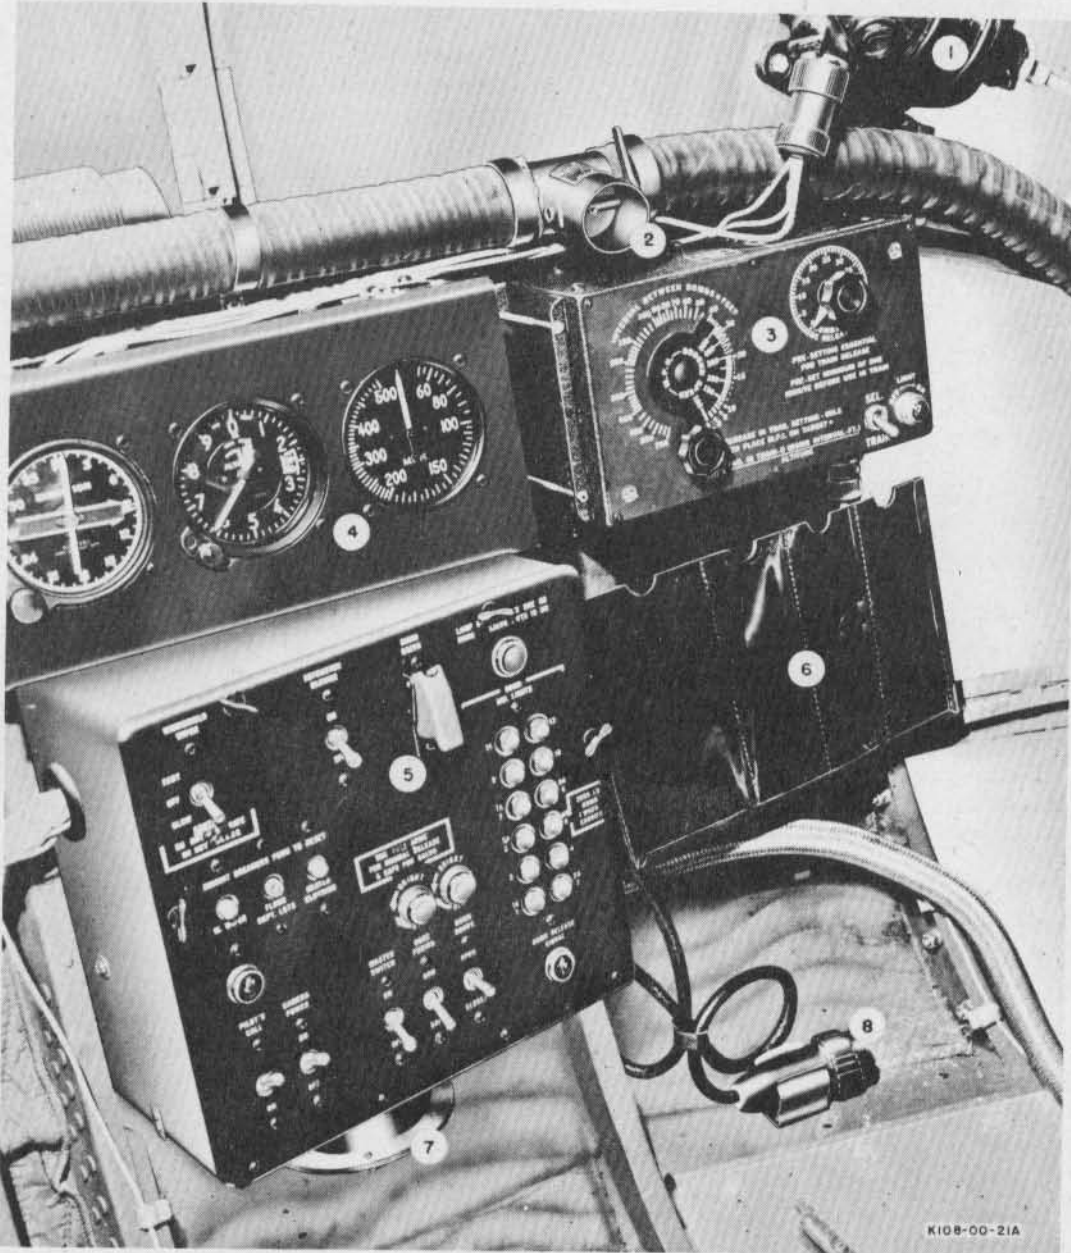

Figure 48—Bombardier's Controls
(1) DESCRIPTION.—The bomb control panel, on the left side of the bombardier's compartment, incorporates bomb station indicator lights, a bomb nose fusing switch and its indicator light, a bomb system master switch, a bomb door control switch, and a bomb salvo switch (see figure 48). On late airplanes, bomb rack selector switches are mounted on the panel (see figure 47) to provide selective release of bombs from the bomb bay racks or the wing racks, if installed. The bomb release switch is stowed to the left of the bomb sight mount. The Type B-3 bomb interval control is mounted above and forward of the bomb control panel. The bombardier's instrument panel, containing a remote compass indicator, an airspeed indicator, and an altimeter, is mounted on the left side of the compartment. A free air temperature indicator is located above the panel.
(2) OPERATION.
On early airplanes (prior to 43-35984) bomb indicator lights for the BOMBARDIER'S CONTROL PANEL (Fig. 48) and PILOT'S CONTROL PANEL (Fig. 36) have bulbs mounted in only one panel, usually the pilot's. If it is desired to use lights on alternate panel it is necessary to transfer the bulbs to this panel. Never fit both panels with
KEY TO FIGURE 48